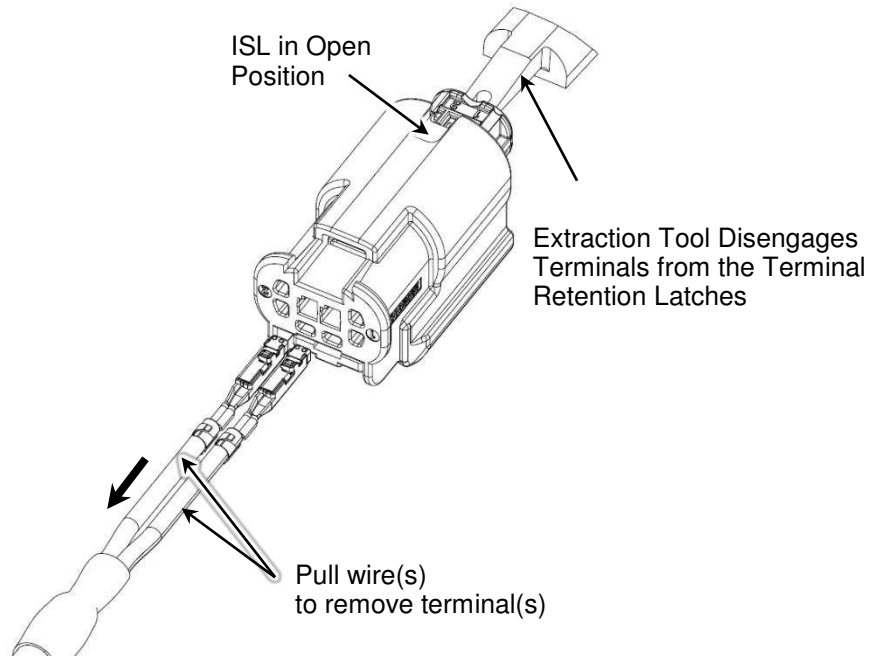

Figure 6
- a. With the extraction tool in the proper location, gently push down on the tool handle until the Terminal Retention Latches are pried upward (see Figure 5). Continue to pull gently on the wires to completely remove the wire assembly from the connector housing (see Figure 6).